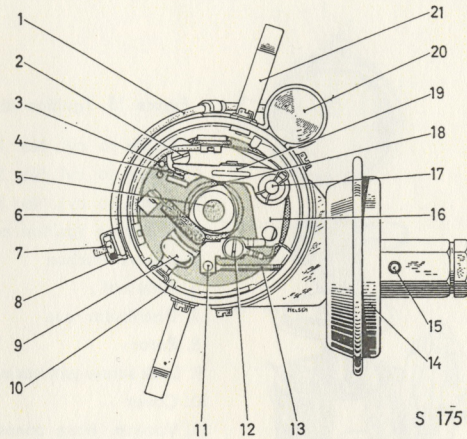

Figure 14. Ignition distributor
Contact points and gaps should be inspected every 9,000 miles (15,000 km). Be sure that the contact surfaces are clean and not so burned that they must be replaced. The correct gap of 0.3—0.4 mm (0.012—0.016 in.) should be checked with a feeler gauge when the breaker arm has been moved by the cams to its outermost position. Adjust the gap by unscrewing the lock screw 2, Figure 14, and move the stationary point until the correct gap is obtained. Tighten lock screw when gap is correct.
3. The indexes on the rotor and distributor body should then coincide with the index on the distributor housing next to the guide lug on the tension spring attachment, 10 in Figure 14.